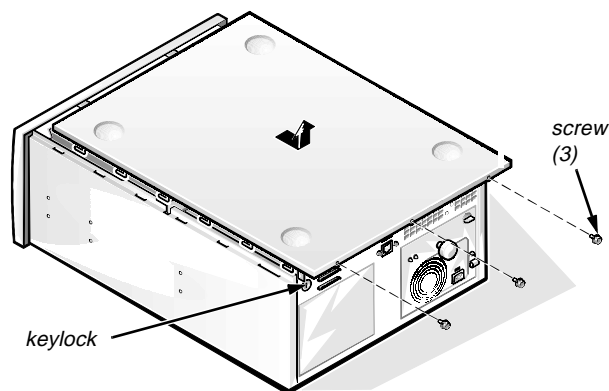

Figure B-5. Removing the Cover
4. **Unlock the cover (see Figure B-5).**
5. **Remove the three screws from the back edge of the storage system cover (see Figure B-5).**